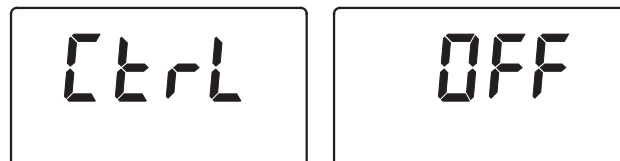

FIG. 26
2. Press the SELECT button six times, until "Ctrl" flashes in the display (See Figure 26).